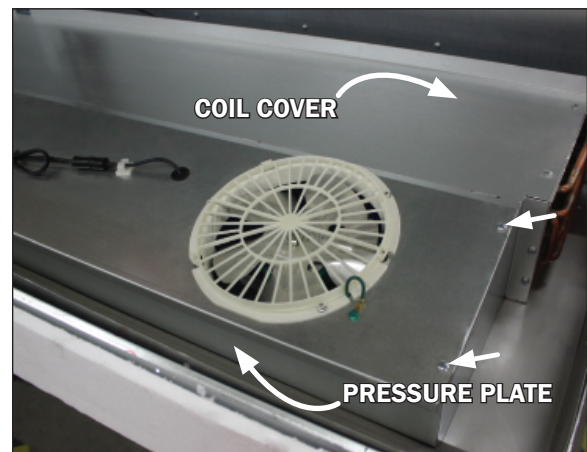
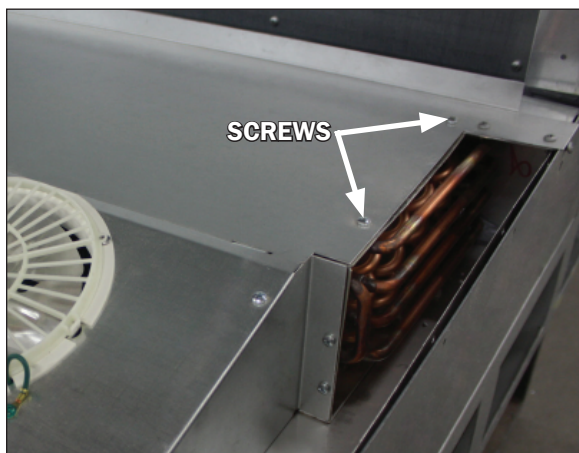

Fig. 17 Pressure plate, screw locations and coil cover (topside)
Fig. 20 Coil cover removal
2. To access the underside of the fans first remove the screws on the top ends and front sill of the pressure plate cover (Fig. 17). Lift the pressure plate by use of the
2. Remove the top two screws at both ends of the coil cover (Fig. 20), as well as the screws from the top ends and front sill of the pressure plate cover (Fig. 17). **Be sure to save the removed screws for reassembly.**